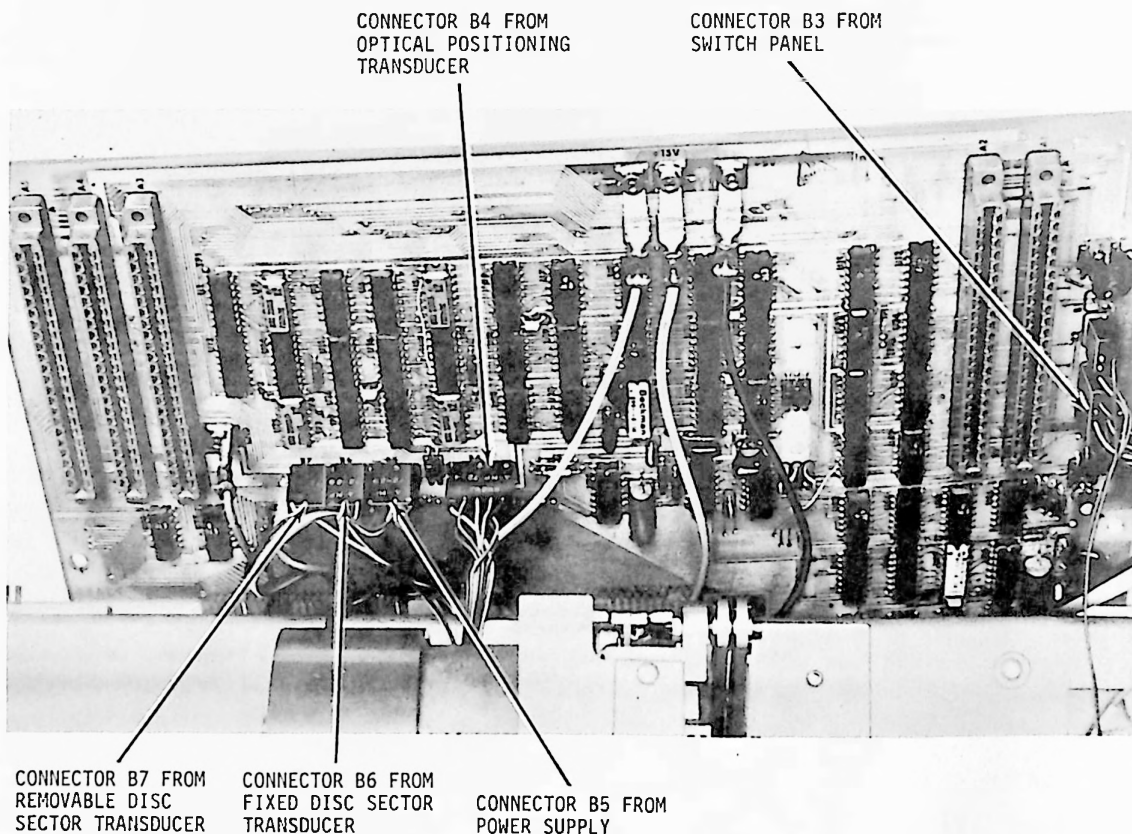

Figure 3-25. Drive Control Logic Circuit Card Connector Location
14. Disconnect connector B4 from drive control logic card (figure 3-25).